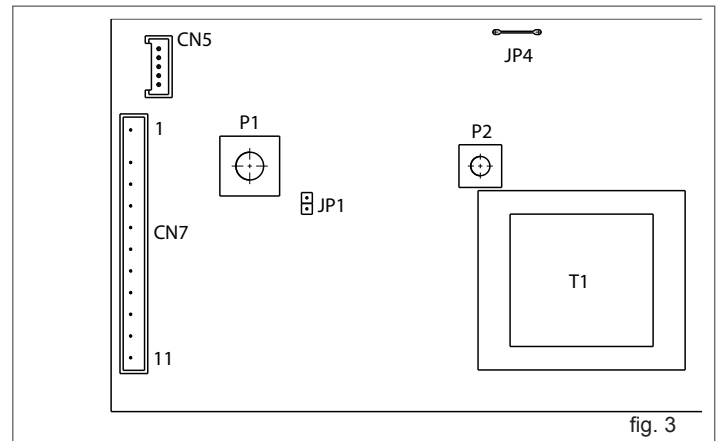

fig. 3
- on the control board (fig. 3):